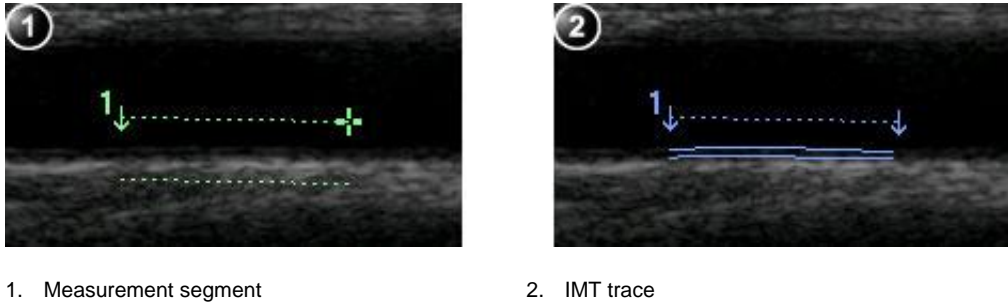

Figure 8-75. IMT Measurement segment and traces
6. Place the cursor in the artery closer to the posterior wall and press **Select** to anchor the start of the search region (Figure 8-75, left).
7. Move the cursor parallel to the artery to define the end point of the search region. Make sure the Intima and Media layers are within the search region (indicated by the lower dotted line in Figure 8-75, left).
Press **Select** to anchor the point. For the posterior wall the contour detector searches for the leading of the edges of the intima and adventitia layers. The detected contours are drawn in the image (Figure 8-75, right).